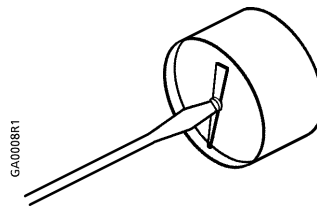

Figure 1. Adjusting the Gauge Pointer.
3. Insert a screwdriver into the screw at the center of the pointer and rotate the screw. See *Figure 1*.